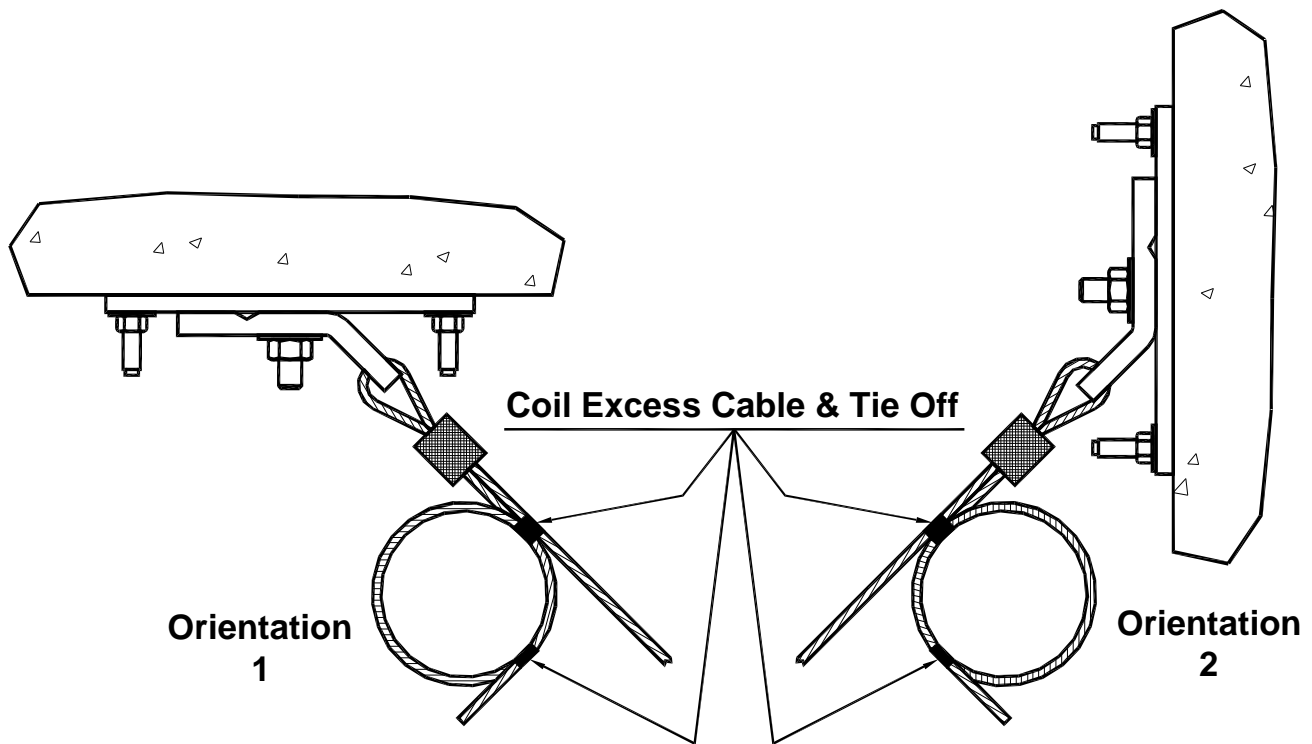

Figure I5-76; Coiling Excess Seismic Restraint Cables for KSCU Cable Kits
5. Excess seismic restraint cable may be coiled and tied off with tape, plastic or metal wire ties, or tie wire in a fashion that is compatible with the installed environment. For corrosive and damp environments use stainless steel wire ties and tie wire. Excess Cable may be coiled as shown in Figures I5-76 and I5-77 for KSCU and KSCC Seismic Restraint Cable Kits respectively.